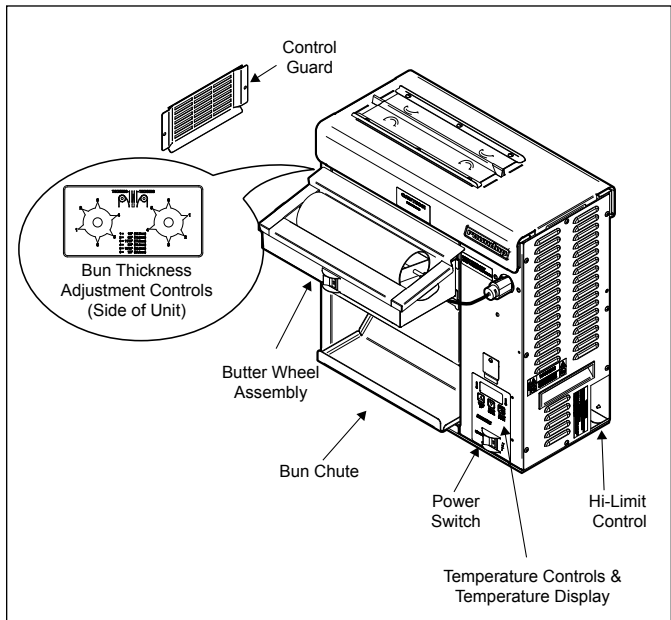

Figure 2. VCT-2010 Toaster
NOTE: The temperature display (Figure 2) flashes “LO” until the toaster reaches its preset operating temperature. When the toaster approaches the preset temperature of 540°F (282°C), “USE” appears in the temperature display and the unit is ready to toast buns. If “USE” does not appear in the window after approximately 30 minutes, contact your Authorized Service Agency.
4. Drop Crowns and Heels into the slot (Figure 2).
5. Toasted buns will drop out of the unit down the Bun Chute (Figure 2) in approximately 18 seconds.
A Hi-Limit Control turns off electrical power to the heater and control circuits if the unit overheats. To reset the control, allow 10-15 minutes for the unit to cool, then locate the Reset Button at the rear of the unit. Remove the black protective cap, press the Reset Button, and reinstall the protective cap (Figure 2).